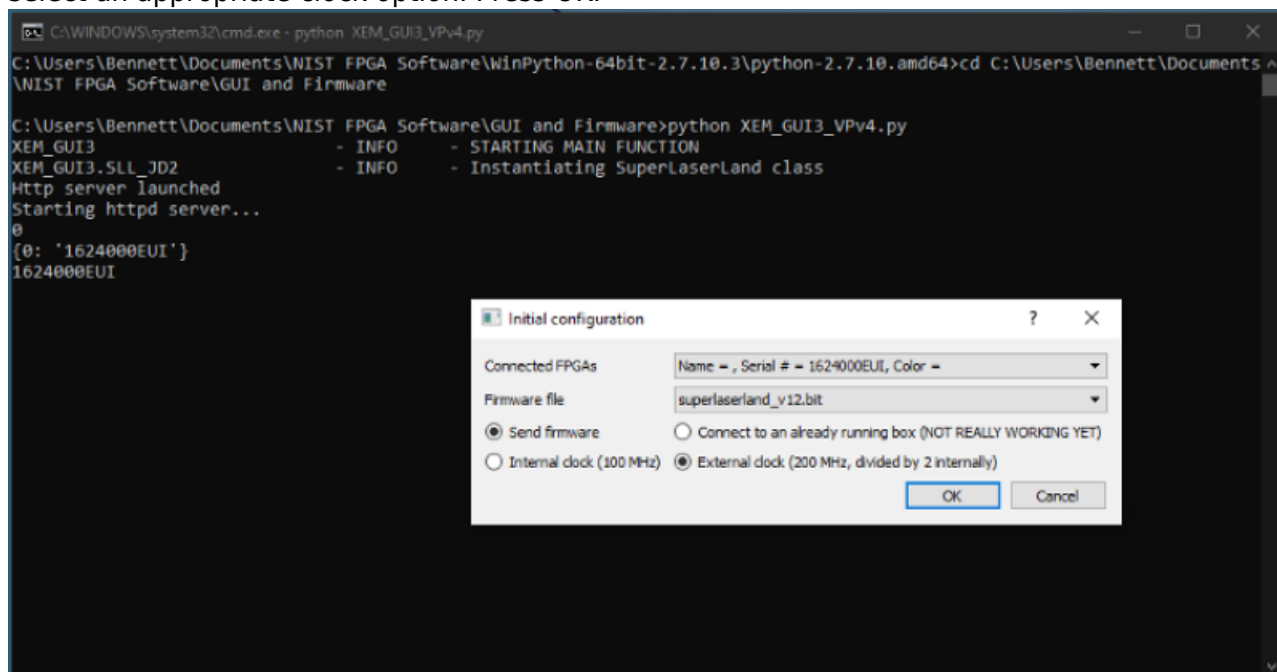

Fig. 11: FPGA GUI Start Screen
3. A start-up menu should appear (figure 11). Make sure "superlaserland\_v12.bit" is selected and